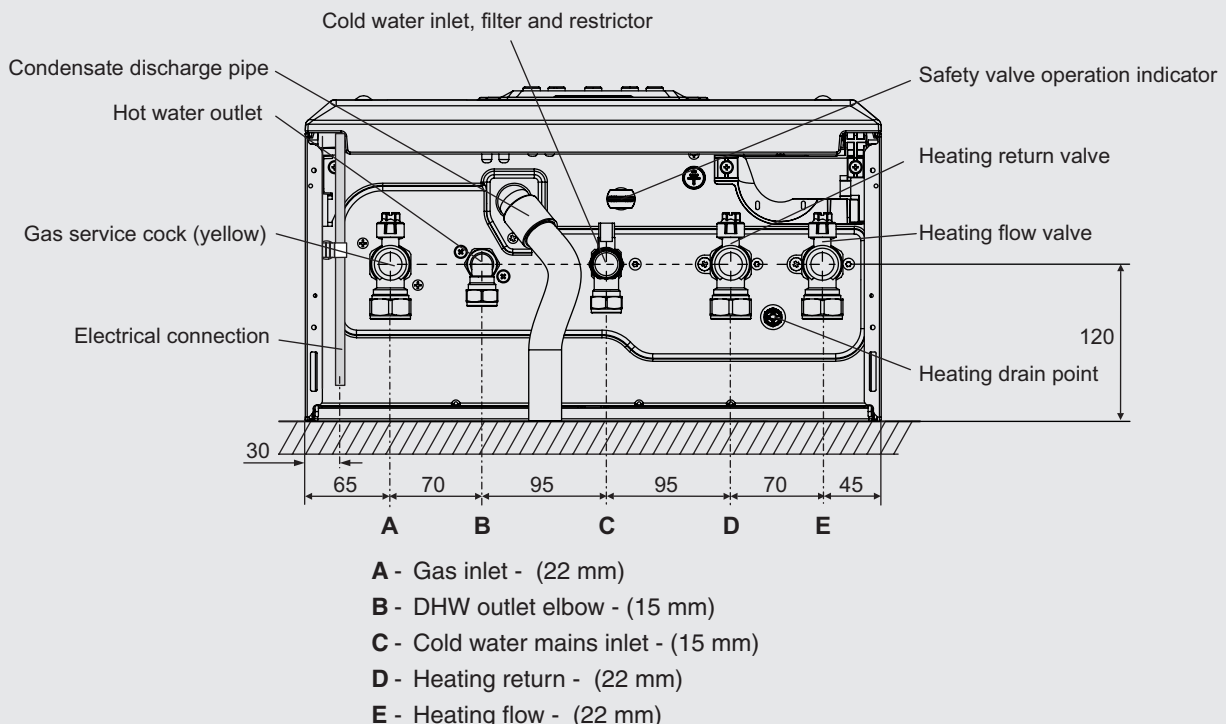

Fig. 5.4
#### 5.5 CONNECT THE PIPEWORK - Fig. 5.4
2. Fit the valves to the boiler connections as shown in Fig. 5.4 - note the colours of the operating levers.
4. Connect the flexible condensate pipe to the rubber connector as shown in Fig. 5.4. Using the adaptor supplied, connect the flexible pipe to the condensate drain. Ensure that the condensate discharge pipe is as required in Section 4.10.